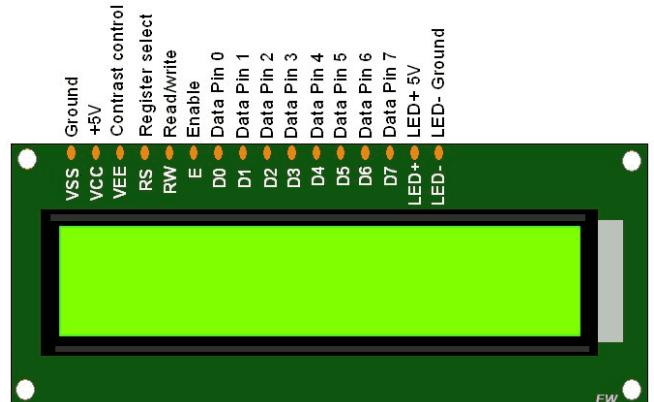

Figure 7. LCD display
**LCD Display-** LCD screen is a flat-panel display, electronic visual display that display that uses the light-modulation properties of liquid crystal and the liquid crystal and the display arbitrary images. It displays preset words, digit, and 7-segment display. It has a wide range of application including computer monitors, television instrument panels, aircraft cockpit display.LCD is a type of flat panel display which uses liquid crystal in its primary form operation LCDs consumes much less power than LED and gas-display because they work on the principle of blocking light rather than emitting it. The below figure 7. shows the image of LCD.